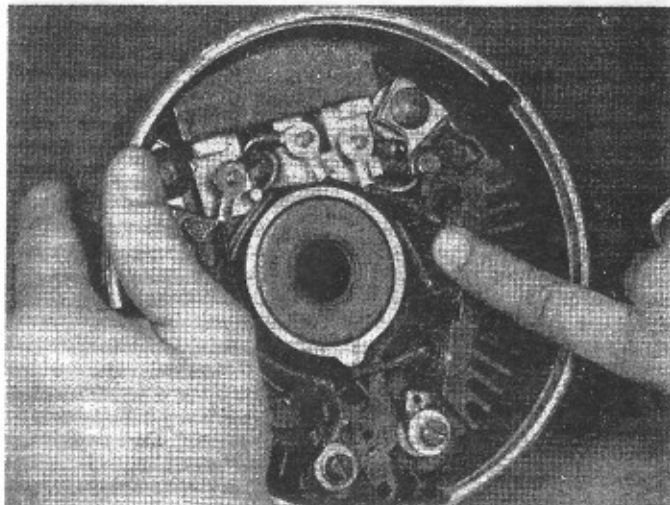

Figure 36
- 3.37 The middle and top leads must be connected to the middle and right AC terminals. Fig. 36.